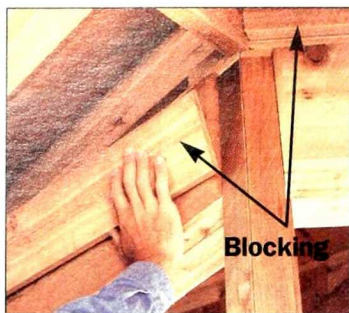
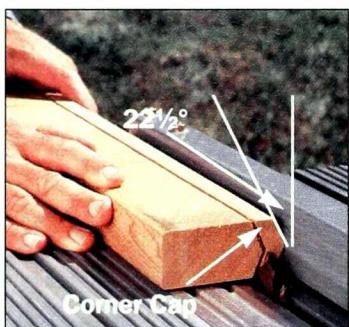

Figure 18: Use blocking to cover gaps between the wall top and the bottom of the sheathing. Install two blocks per wall.
Figure 19: All eight corner caps are cut on the table saw from a single 2x6.
- Cut the ridge caps from cedar 4x4s, using a table saw and two intersecting cuts (plan detail, page 79). This is the same procedure shown in Figure 19 on page 88 for cutting the corner caps but the blade angle is set at 15 degrees to cut the roof ridge caps.
- To cover the 4-inch gap between the top of the wall and the bottom of the roof sheathing, fit in short pieces of 1x6 blocking (Figure 18). Then add the corner caps (Figures 19 and 20), which cover any gaps at the corners and give a finished appearance.